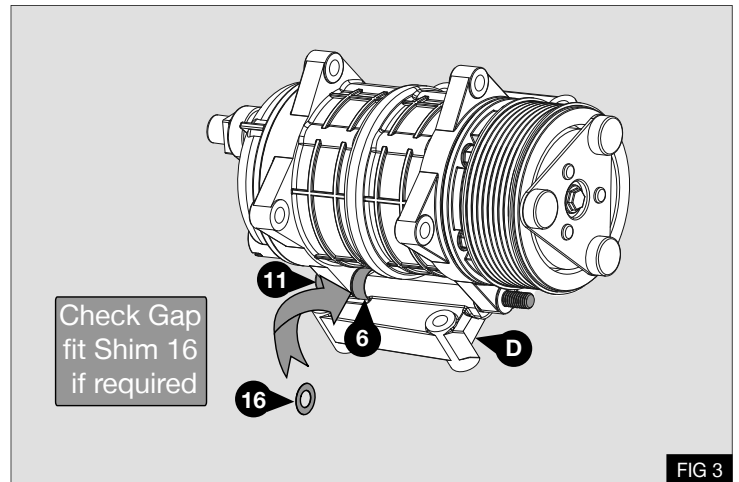

FIG 3
- Check the gap between the compressor ears and fit the supplied shims ⑯ if required as shown - Fig 3